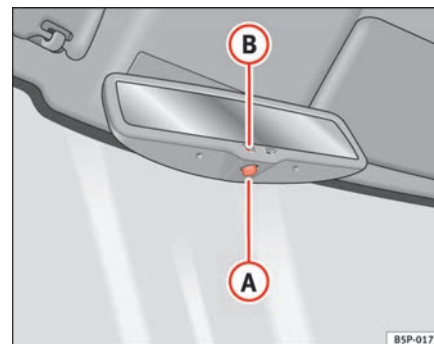

Fig. 88 Automatic anti-dazzle interior mirror.
- Press button **A** ⇒ fig. 88. Warning lamp **B** goes out.
- Press button **A** ⇒ fig. 88. Warning lamp is lit.